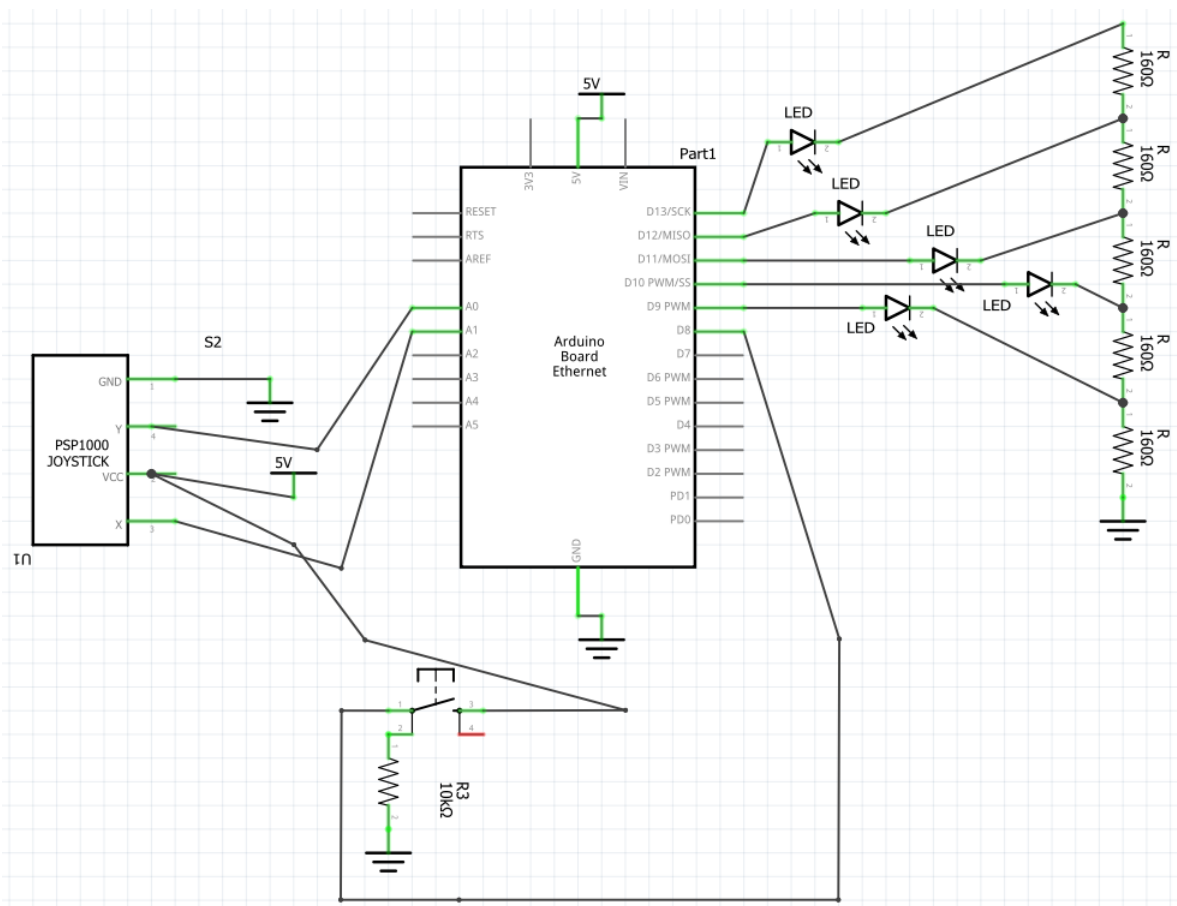

Figure 3: Part 2 schematic
Continuing with the circuit constructed in part one, we connected a joystick to the button circuit as shown in figure 3. The 5V pin on the Arduino was connected to the joystick. However, the button circuit was now not being powered, so the button circuit was connected to the joystick through the 5V pin on the joystick. The Arduino's analog A0 and A1 pins were connected to the joystick's VRX (potentiometer affected by the joystick's movement in the x direction) and VRY (potentiometer affected by the joystick's movement in the y direction) pins respectively. Finally, the joystick was grounded. When the joystick is not moved, the analog inputs (pins A0 and A1) receive normal reading of around 500. When the joystick is moved up and down, the analog readings are increased to 1023 and decreased to 0 respectively.
2.3 Figure 3: Schematic Part 2